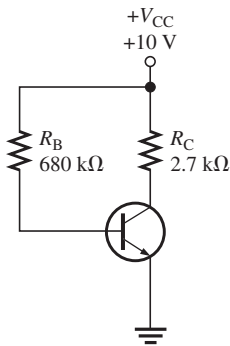

FIGURE 3-68
8. For the base-biased *nnp* transistor in Figure 3-68, assume $\beta_{DC} = 100$. Find I_C and V_{CE} .